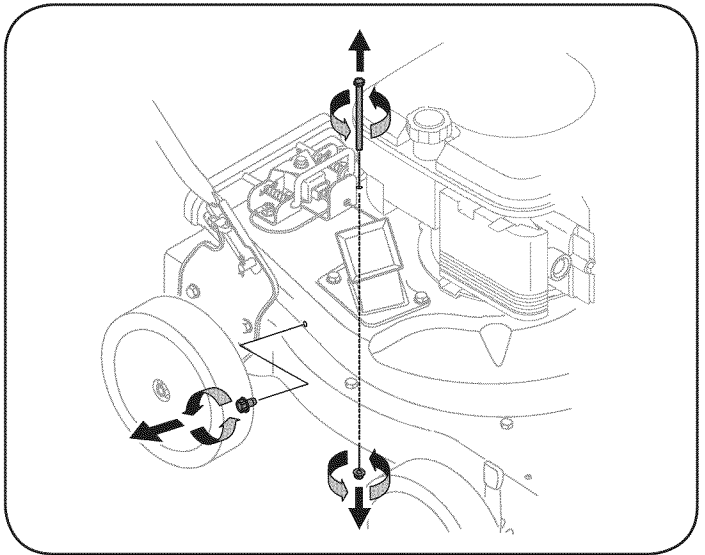

Figure 21
5. Remove self tapping screw on right side of unit that attaches to the flail screen. See Figure 21.
6. Remove hex screw on top of rear housing near mounting bracket and the flange lock nut that secures flail screen. See Figure 21.